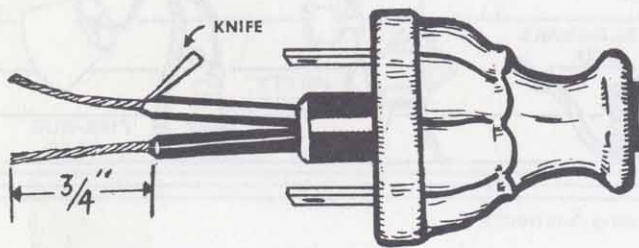

Figure 1 (Ready to Wire Plug)
3. Pass one end of the new cord through the center of the plug. Strip 2 inches of the fabric insulation off cord, or in case of a rubber cord, split cord back two inches. Be sure no bare wire shows in long split section (Figure 1).
4. Use knife to strip insulation off wire for $3/4''$ on end of each cord. Be careful. Don't cut yourself. Don't cut wires. Use a light touch, slope the knifeblade and slice with knife edge away from you (Figure 1).